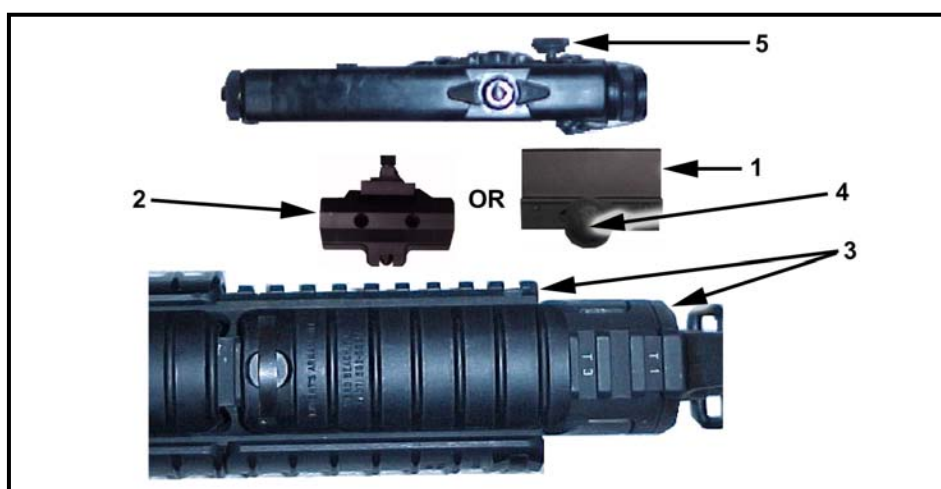

Figure 2-32. Mounting the AN/PEQ-2A on the M16A4 and M4 MWS.
b. **M16A4/M4 MWS Weapons** (Figure 2-32). The Picatinny rail grabber (1) or the Insight rail grabber (2) may be used to mount the AN/PEQ-2A to the RAS. Mount the rail grabber all the way forward on the top or either side of the RAS ensuring it does not extend beyond the end of the RAS. (The AN/PEQ-2A will not retain zero if the rail grabber extends beyond the end of the integrated rail when mounted.) Tighten the torque-limiting knob (4) until it clicks twice. If installing the AN/PEQ-2A with the Insight rail grabber you must tool tighten the AN/PEQ-2A and rail grabber or it will come loose. Align the thumbscrew (5) on the AN/PEQ-2A with the hole that is closest to the front sight assembly located on the tope of the rail grabber. The mounting procedures are identical for the M16A4 and M4-series modular weapon systems. If the aiming light and rail grabber are removed as a whole unit and mounted onto the same rail, the system will retain zero. If the rail grabber and AN/PEQ-2A are separated, the AN/PEQ-2A must be rezeroed to the weapon.